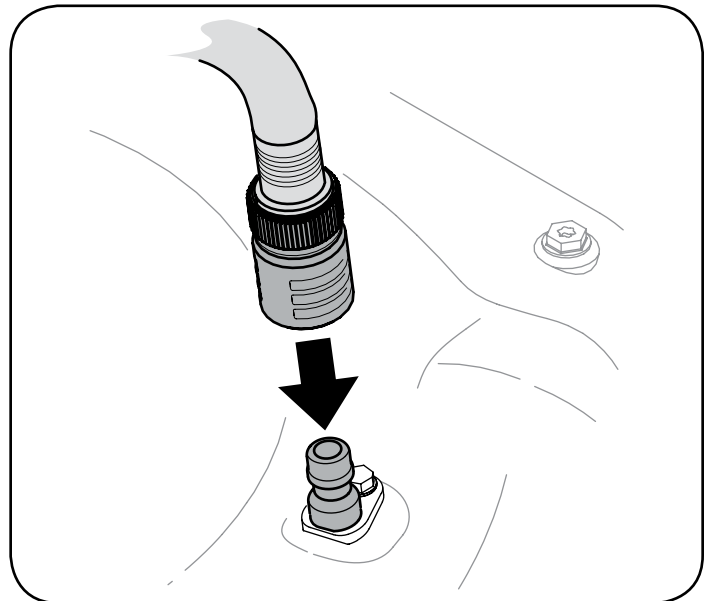

Figure 22
3. Attach garden hose with the deck wash nozzle to the water port on your deck's surface. See Figure 22.